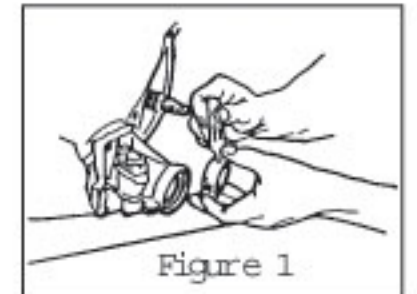

Figure 1
2. Due to the thin wall of the housing, we recommend the use of LockTite sealant, as in (Figure 1).